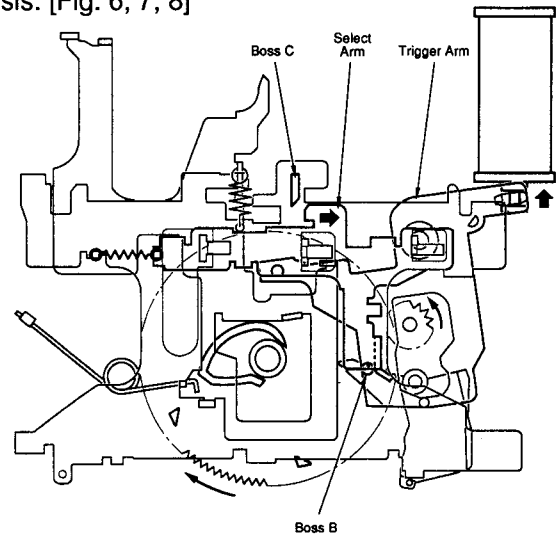

FIG. 6
5. 345 ms after completing the pulling of SOL in 2., the SOL is ON for 150 ms, the trigger arm pushes the select lever right by means of boss B. This splits the select lever toward the right side of boss C above the main chassis and it rises along with the head chassis. [Fig. 6, 7, 8]